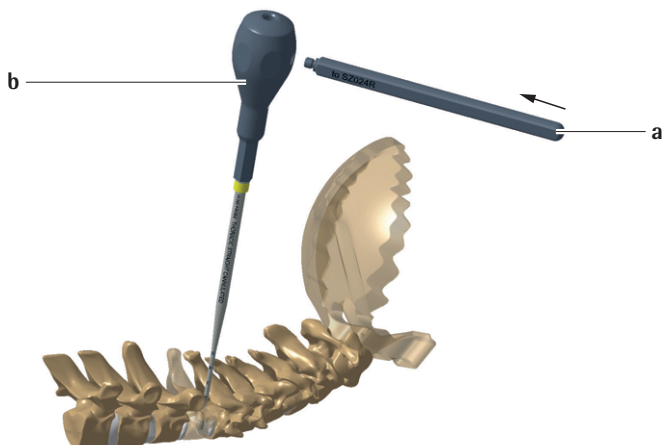

Fig. 70
- ▶ For the radiographic control additional handle **a** can be mounted to the bone probe. Turn the additional handle **a** clockwise into the grey handle **b** of the bone probe, see Fig. 70.